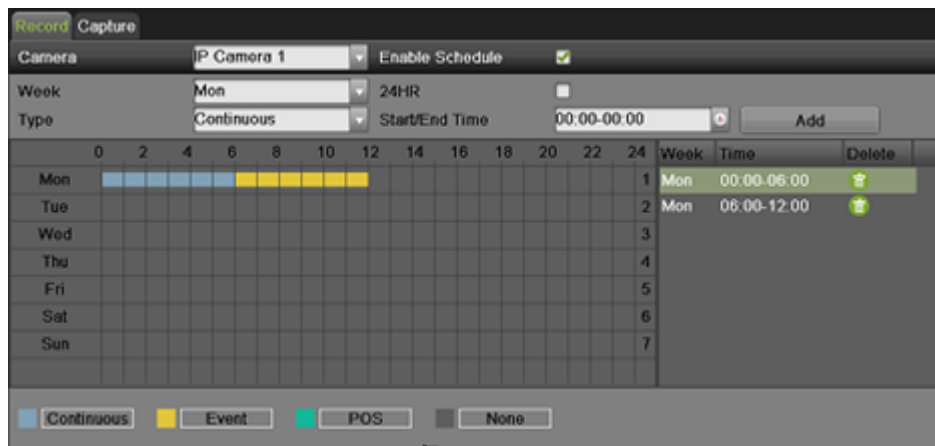

Figure 76 Record Schedule Configuration Example
- 4) Select the Add button to add time frame to schedule. The newly added time frame will appear in the schedule on the right. You can click  to delete the selected time period on the right. Continuous recordings are shown in blue on the schedule while event recordings are shown in yellow. An example of this can be seen in **Figure 76**.